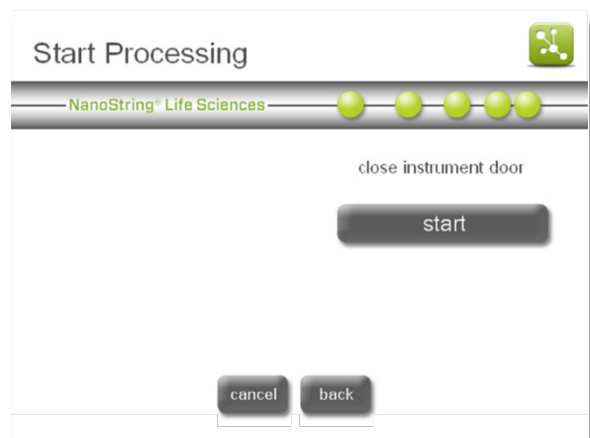

Figure 134: The 'Start Processing' screen.
6. The 'Start Processing' screen will appear (Figure 134). Press **start** to initiate the protocol. Refer to Operating the Prep Station for further instructions.